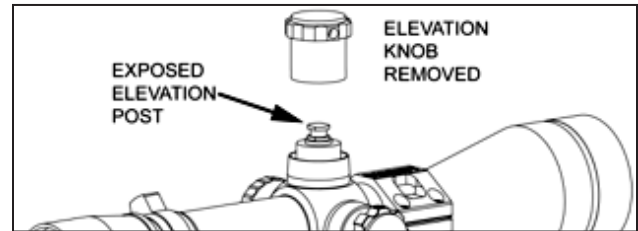

Figure 1.
1. Adjust the elevation knob to the highest setting, then remove the Leupold elevation knob to expose the elevation adjustment post. Figure 1.